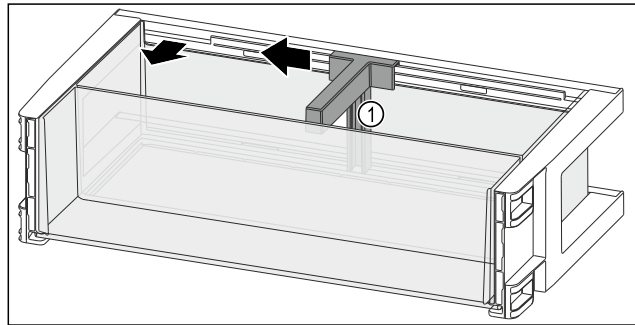

Fig. 140
- ▶ Slide the bottle holder Fig. 140 (1) to the side as far as the recess.
- ▶ Remove the bottle holder Fig. 140 (1).